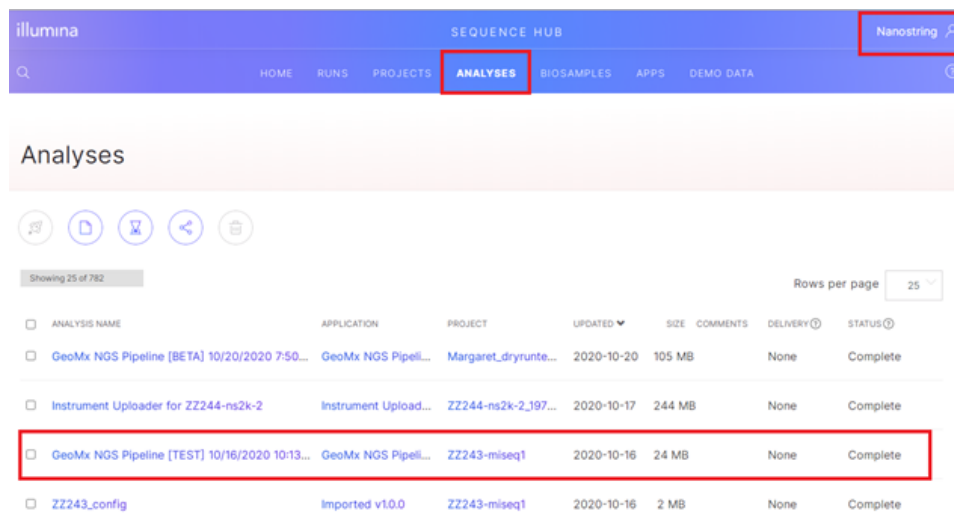

Figure 17: Analyses in BaseSpace
1. When the run is complete, log into BaseSpace, navigate to the workgroup, and select the **Analyses** tab (Figure 17).
2. Click on the analysis of interest (Figure 17).